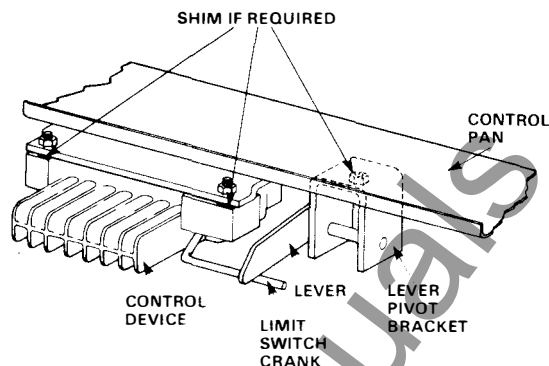

Fig. 6 — Control Relay
5.10 CONTROL RELAY ADJUSTMENT (See Figure 6)
The control relay does not normally require any adjustment in the field. The gap between the control device lever and the limit switch crank should be between 0.06" and 0.09" with the closing springs charged. If the gap measurement is incorrect adjust all 5HK circuit breakers except 5HK350, 3000 by shimming either at the lever bracket or the control device mounting screws as illustrated in Figure 6. Before changing shims at the two control device screws, loosen all three screws, replace shims and then tighten all three screws. The 5HK350, 3000 is adjusted by means of an adjusting head screw fastened to the lever.